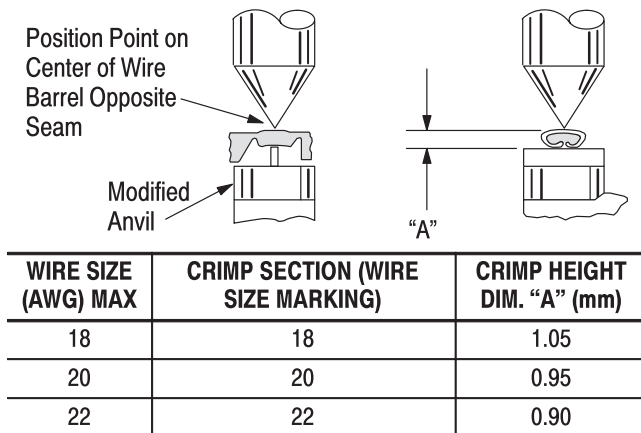

Figure 4
NOTE This tool is provided with a crimp adjustment feature. Initially, the crimp height should be verified as specified in Figure 4. Refer to Section 6, CRIMP HEIGHT INSPECTION, and Section 7, CRIMP HEIGHT ADJUSTMENT, to verify crimp height before using the tool to crimp desired contacts and wire sizes.
1. Refer to Figure 4 and select a wire (maximum size) for each crimp section listed.
3. Using a crimp height comparator, measure the wire barrel crimp height as shown in Figure 4. If the crimp height conforms to that shown in the table, the tool is considered dimensionally correct. If not, the tool must be adjusted. Refer to Section 7, CRIMP HEIGHT ADJUSTMENT.